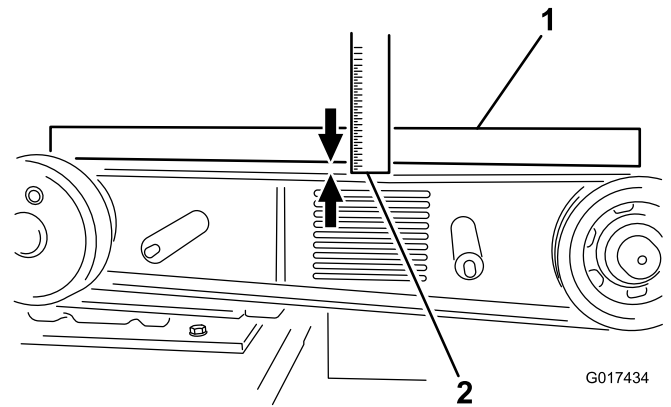

Figure 27
8. Lay a straightedge across the clutch and flywheel pulleys. Tighten the belt-tension bolt so that there is 10 mm (0.40 inch) of flex in the belt when pushing down with 6.8 kg (15 lb) force at mid-span (when re-tensioning a belt in use), or with 8 kg (18 lb) force when installing a new belt (Figure 27).